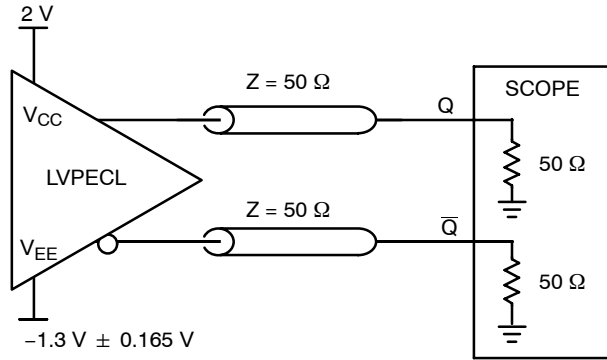

Figure 4. Output Load AC Test Circuit (Split Power Supply)
2. Outputs terminated with 50Ω to $V_{CC} - 2.0 \text{ V}$. See Figures 4 and 12.
4. Output terminated with 50Ω to $V_{CC} - 2.0 \text{ V}$. See Figures 4 and 12.